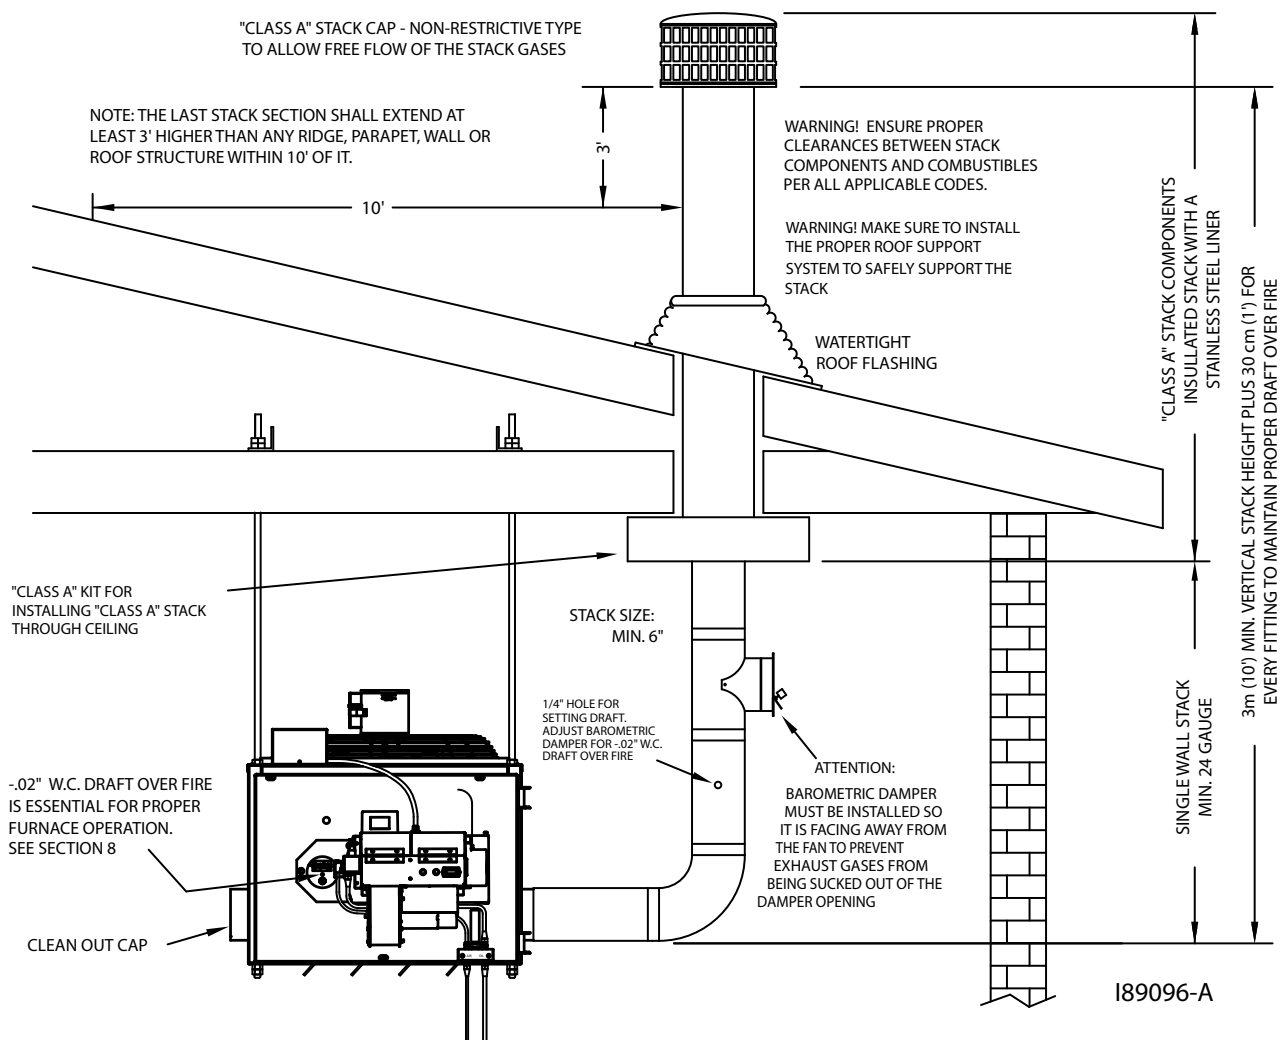
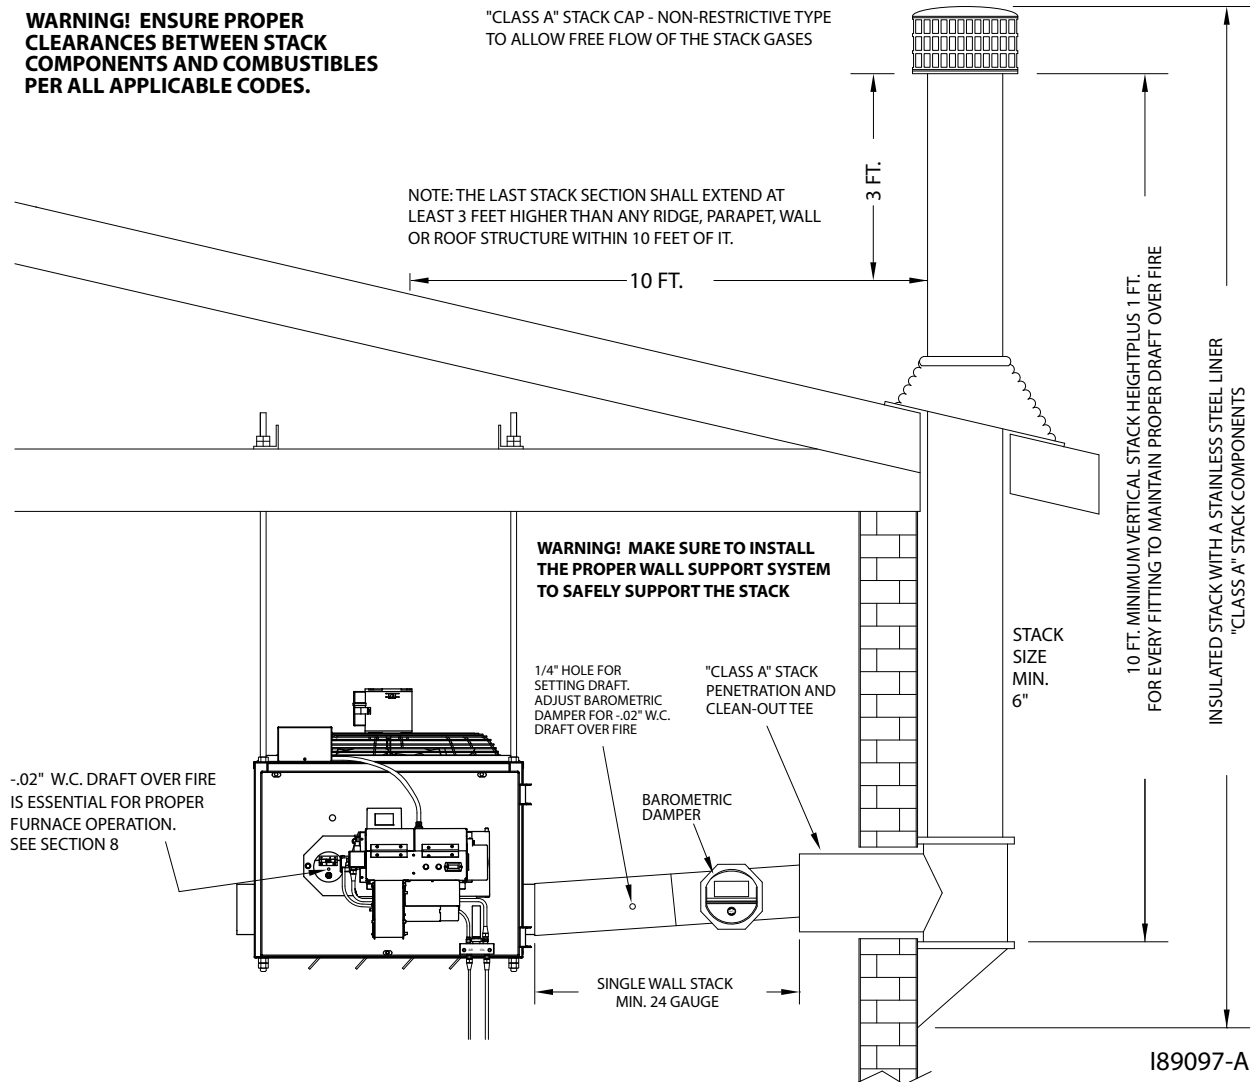

Figure 4L - Installation of "Class A" Stack Through Roof/Ceiling
Figure 4M - Installation of "Class A" Stack Through Sidewall
- (1) "Class A" stack through the ceiling of the building (refer to **Figure 4L**)
- (2) "Class A" stack through the sidewall and up the side of the building (refer to **Figure 4M**)
Figures 4L and 4M illustrate recommended stack designs. Choose the stack design which is appropriate for your furnace installation and review all specifications provided in the corresponding drawing. When designing your stack, adhere to the following specifications:
1. Refer to Figure 4L. Install a single wall tee (min. 24 gauge) after the 90 degree elbow in the straight vertical stack section within three to five feet of the furnace breach. For horizontal stack runs (as shown in Figure 4M), install the tee after the first straight section of pipe.
1. Refer to Figure 4L / 4M as needed.
1. Refer to Figure 4L / 4M as needed. Your stack cap should be classified as: "Class A" non-restrictive, all-fuel type.